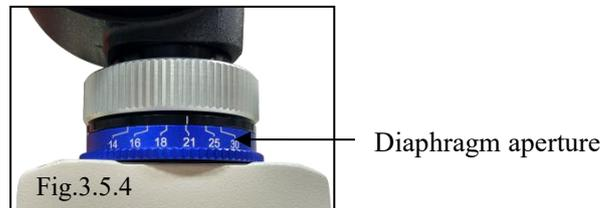

Fig.3.5.4
- The number above the apertures: F14, F16, F18, F21, F25, F30 indicate the aperture size. The larger the number, the smaller the aperture. When the light is insufficient, a large aperture is required to ensure the brightness of the picture, apply to the condition such as observing the cornea with slit light. Use a small aperture for greater depth of field when there is plenty of light, apply to the condition such as use a large spot to observe the eye (see Figure 3.5.4).